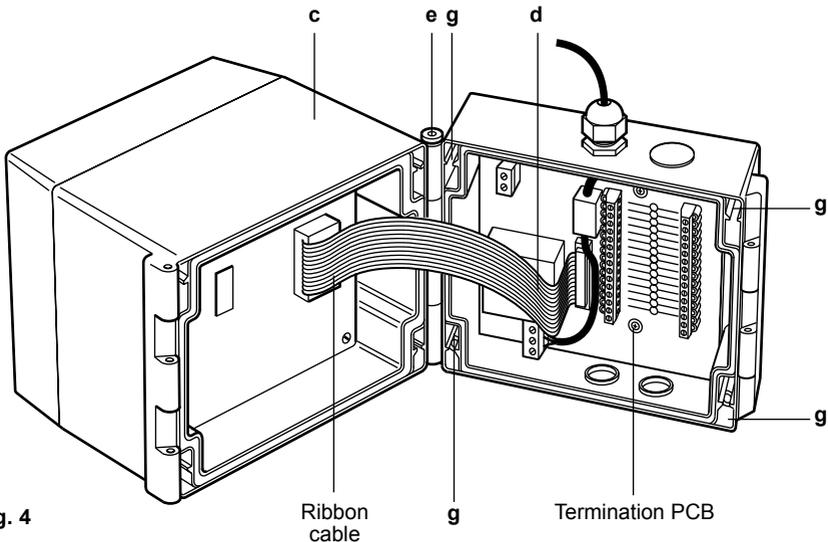

Fig. 4
3. Swing the front section 'c' open (Figure 4).